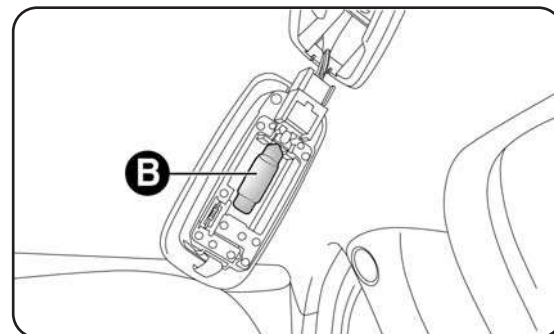

fig. 29
- replace bulb B - fig. 29 releasing it from the side contacts and making sure the new bulb is correctly fastened between the contacts.